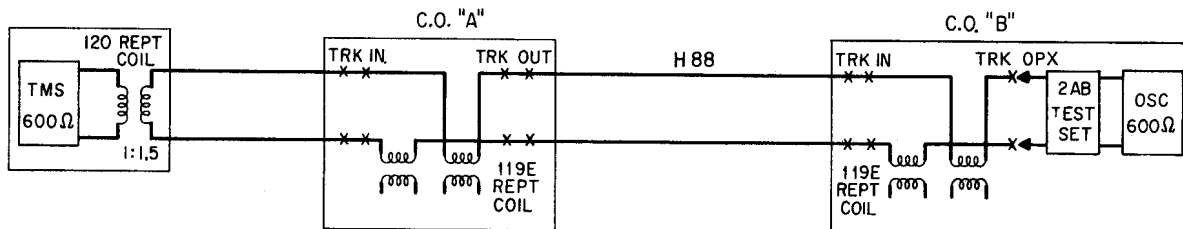

Fig. 7 — Frequency Response Measurements of Backbone Route
**6.02** The frequency response of the backbone route should be measured from the most remote central office to ARB headquarters. If the backbone route is split, measurements should also be made from the most remote office on the branch. Measurements should be made in accordance with Fig. 7 which is a typical testing arrangement. **ALL BRIDGING CIRCUITS AND LOOPS SHOULD BE CONNECTED NORMAL BEFORE MAKING THE TEST.** All repeaters should be strapped for their normal operating condition.
1	Connect the MEAS jack of the 2AB set to the TRK OPX jack of the jack access circuit as shown in Fig. 7.
2	Connect test equipment to the 2AB set as shown in Fig. 7.
12	If requirements are met, dismantle equipment at central office "B" of Fig. 7.